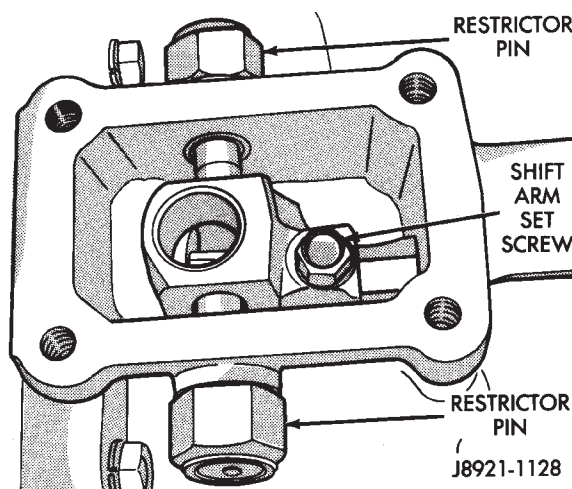
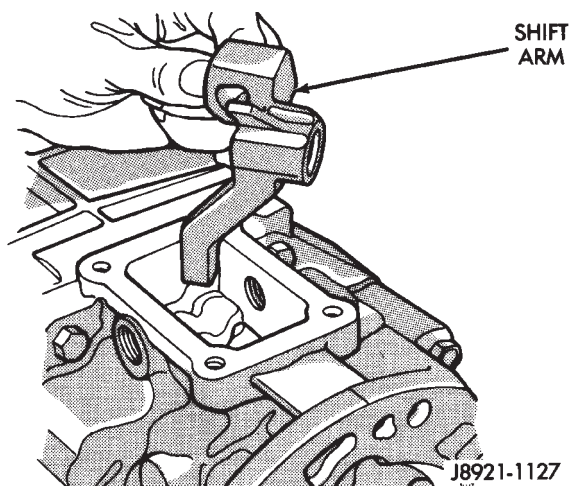

Fig. 125 Set Screw And Restrictor Pin Installation
Fig. 124 Shift Arm Installation
(22) Position shift arm in adapter housing (Fig. 124). Be sure arm is engaged in shift rails.
(23) Align shift arm with shaft and push shaft into arm.
(24) Rotate shift arm shaft until set screw holes in shaft and arm are aligned.
(25) Install and tighten shift arm set screw to 38 N•m (28 ft. lbs.) torque (Fig. 125).
(26) Install and tighten restrictor pins to 19 N•m (14 ft. lbs.) torque (Fig. 125).